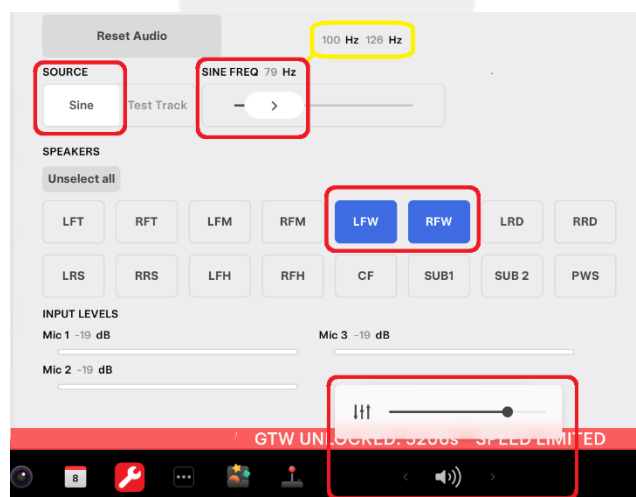

Figure 2
4. Set the 'SOURCE' to **Sine**, set the 'SINE FREQ' to **79 Hz**, set the 'SPEAKERS' to **LFW** and **RFW**, and then set the volume to 75% to play a test sound (Figure 2).